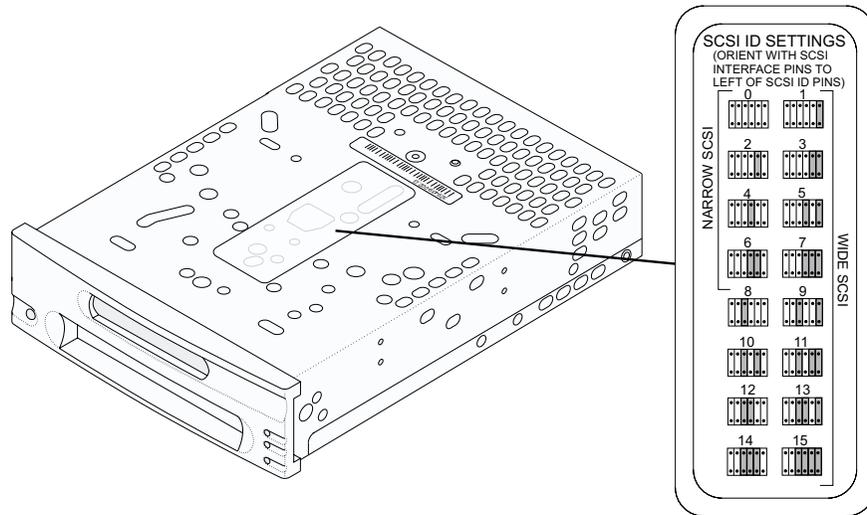

Figure 2-3 Label for the SCSI ID jumper settings on the bottom of the drive
1. Locate the SCSI ID label on the bottom of the tape drive, shown in Figure 2-3. This label provides the SCSI ID jumper settings for both narrow and wide SCSI interfaces (0 to 7 for narrow; 0 to 15 for wide).